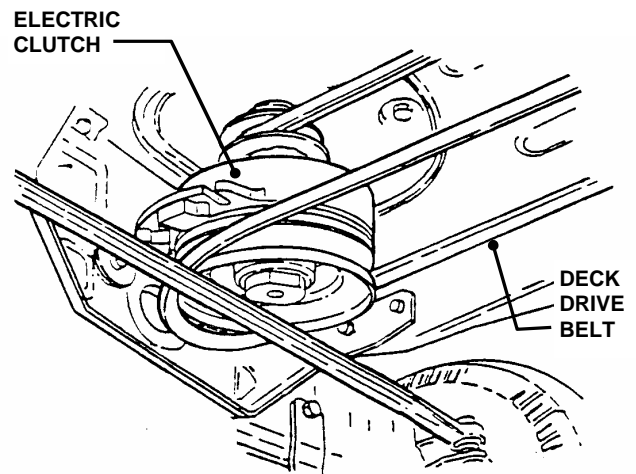

FIGURE 4.27
8. Remove deck drive belt from engine pulley bottom groove. See Figure 4.27.